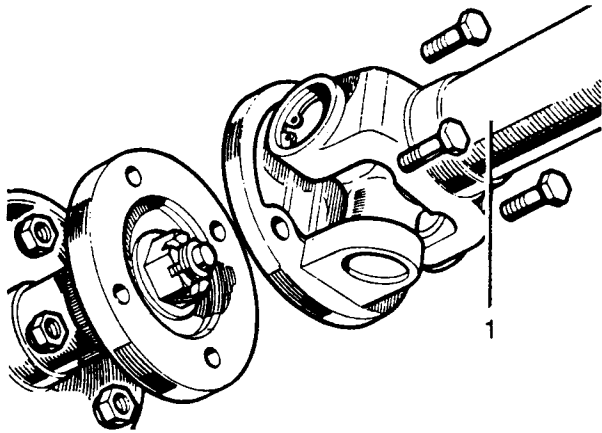

Fig H1.11
(10) Refer to Fig H1.11. Refit the front propeller shaft (1).